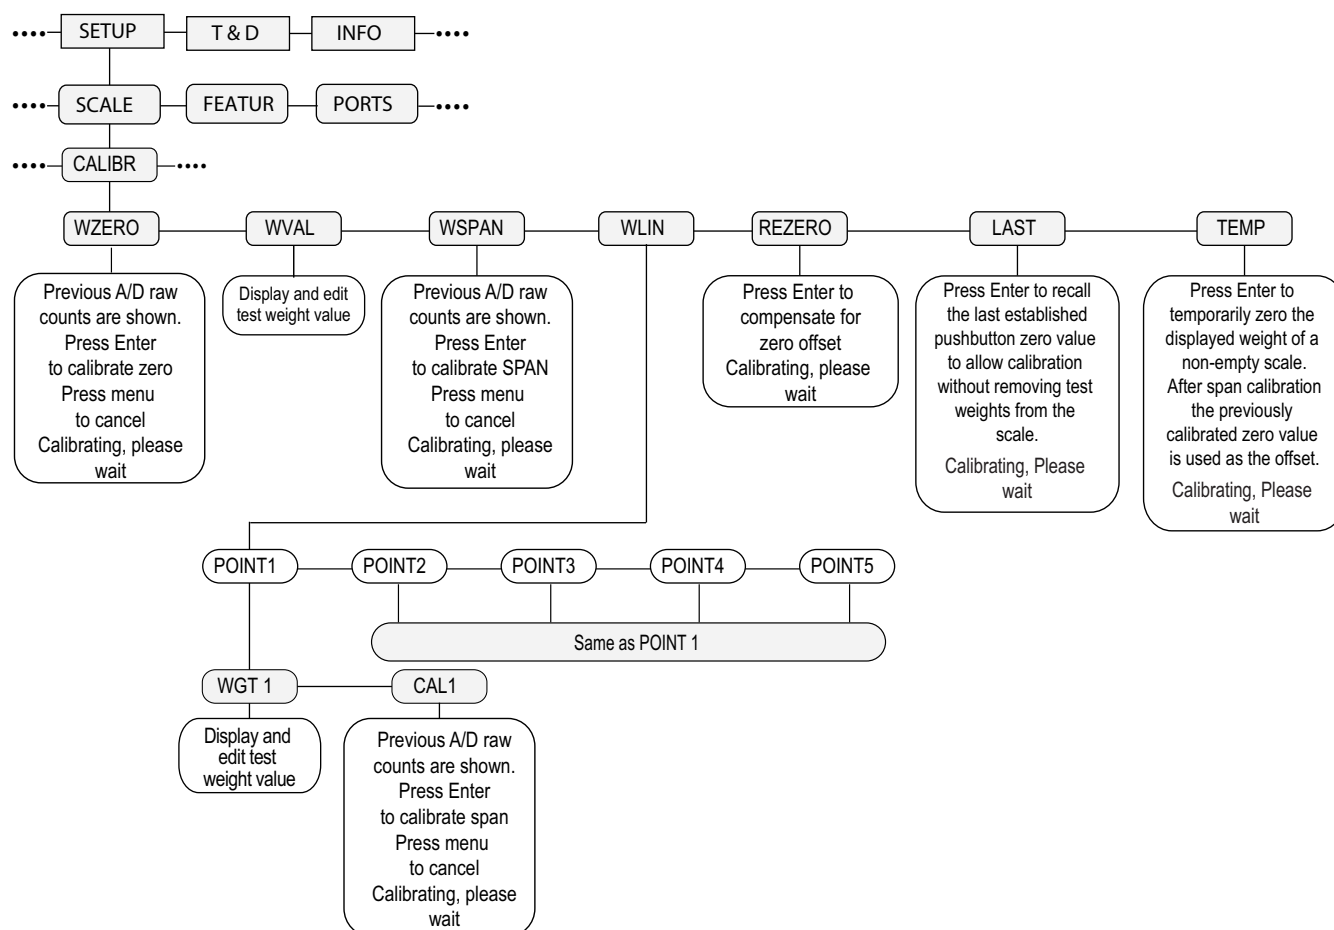

Figure 4-1. Calibration (CALIBR) Menu
1. Put the indicator in configuration mode using the setup switch on the back of the unit, see Figure 3-1 on page 43, (or use  if audit trail is enabled), and navigate to CALIBR, see Figure 4-1 on page 68.